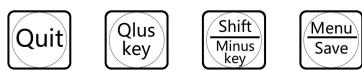

Figure 1
4.1 keyboard description (Figure 1)